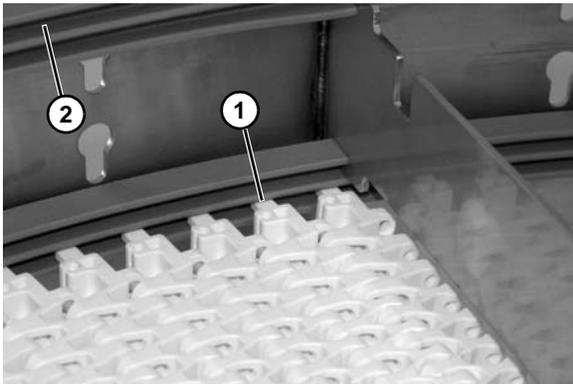

Figure 25
5. Be sure belt tabs are seated in the lower channel of bottom belt guide (**Figure 25, item 1**) and upper channel of top belt guide (**Figure 25, item 2**).